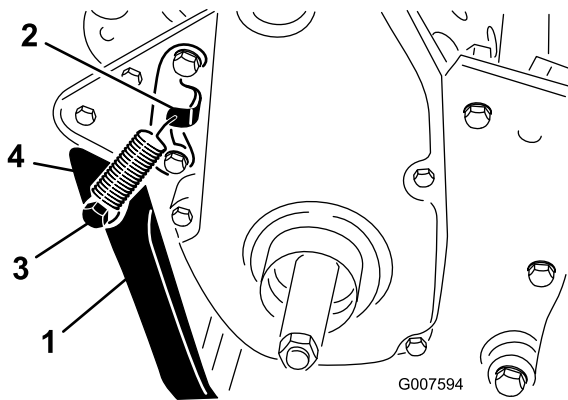

Figure 6
- Hook the spring into the hole in the spring bracket and onto the spring stud while aligning the kick stand with the mounting holes in the rear frame (Figure 6).
3. Mount the kick stand to each side of the frame with a bolt, lockwasher, spacer, flat washer and locknut (Figure 6). Position the spacer in the kick stand mounting hole.